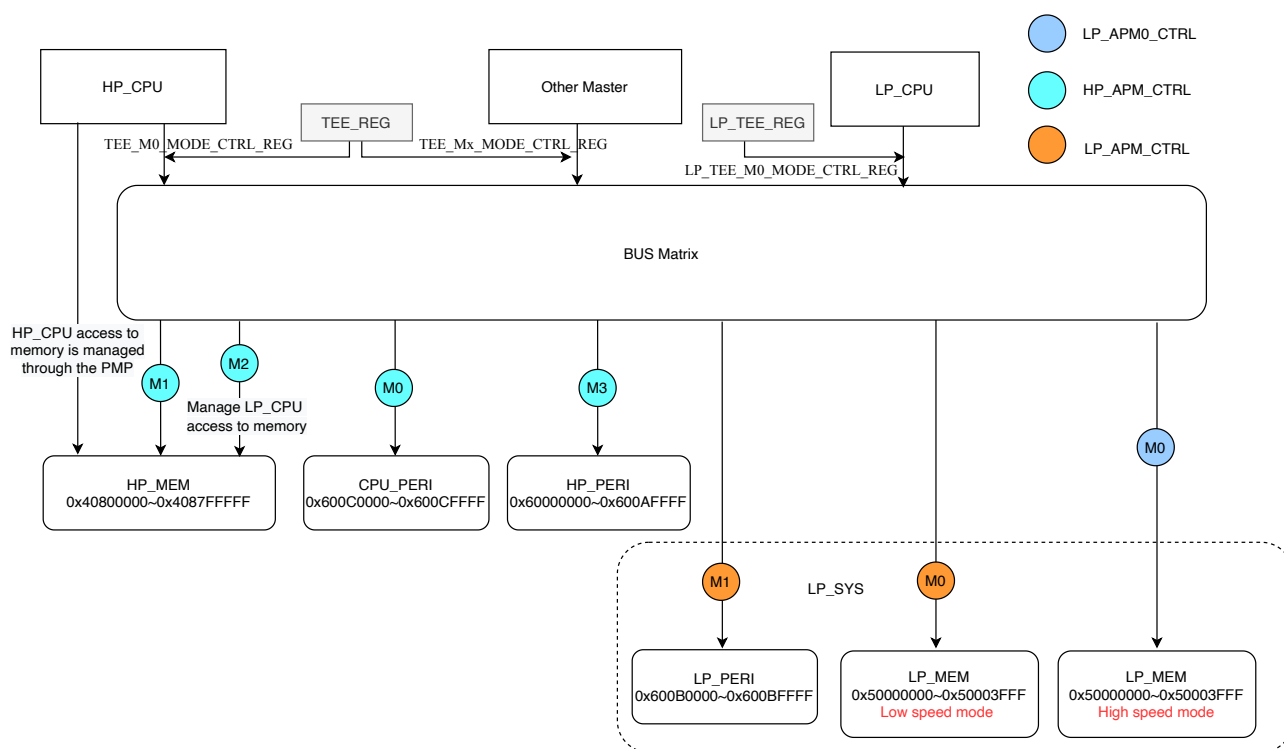

Figure 15-2. APM Controller Structure
Figure 15-2 shows the access path managed by the APM controller.
As shown in the Figure 15-2, APM controller contains 3 functional modules: HP_APM_CTRL, LP_APM0_CTRL, and LP_APM_CTRL, configured by the register modules HP_APM_REG, LP_APM0_REG, and LP_APM_REG respectively.
- HP_APM_CTRL manages 4 access paths, namely M0-M3 in the figure 15-2. Permission management of each path can be enabled by configuring HP_APM_FUNC_CTRL_REG (enabled by default).
- LP_APM0_CTRL manages one access path, namely M0 in the figure 15-2. Permission management of this path can be enabled by configuring LP_APM0_FUNC_CTRL_REG (enabled by default).
- LP_APM_CTRL manages 2 access paths, namely M0 and M1 in the figure 15-2. Permission management of each path can be enabled by configuring LP_APM_FUNC_CTRL_REG (enabled by default).
Different access paths managed by the same register module share the configuration of address ranges and access permissions. For example, the permission management of data path HP_APM M0-M3 shown in figure 15-2 should follow the address ranges and access permissions of each address range configured in the register module `HP_APM_REG`. Likewise, the permission management of data path LP_APM M0-M1 shown in figure 15-2 should follow the address ranges and access permissions of each address range configured in the register module `LP_APM_REG`.
These seven interrupt signals correspond to the controlled access paths shown in Figure 15-2. If an illegal access occurs in a controlled access path, the corresponding interrupt will be generated.